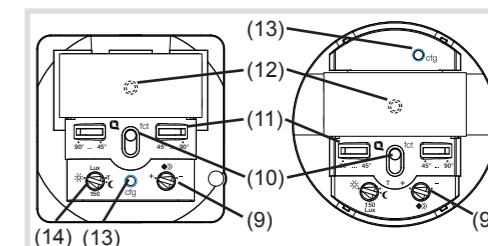
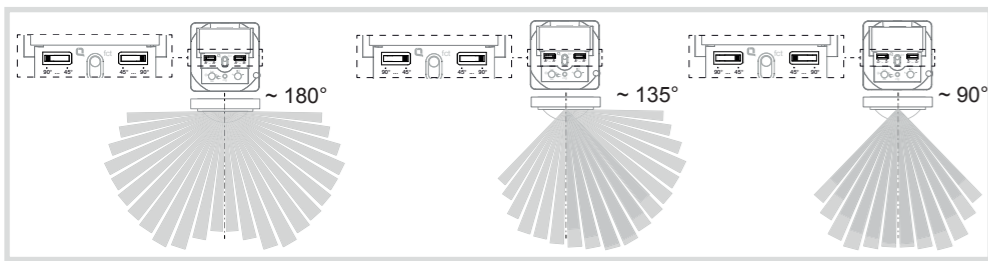

Fig. 5: Operating and adjustment elements of the bottom part of the application module
Fig. 8: Setting the detection angle
The detection angle can be restricted for the right side and for the left side via each adjuster (Fig. 5, 10) between 45° ... 90°. Thus the detection angle can be between 90° and 180° (Fig. 8).
- Setting the test mode. To do so, set the response brightness potentiometer (Fig. 5, 13) to the T position.
- Turn the response brightness potentiometer (Fig. 5, 14) to the desired position.
- Turn the sensitivity potentiometer (Fig. 5, 9) to the desired position.